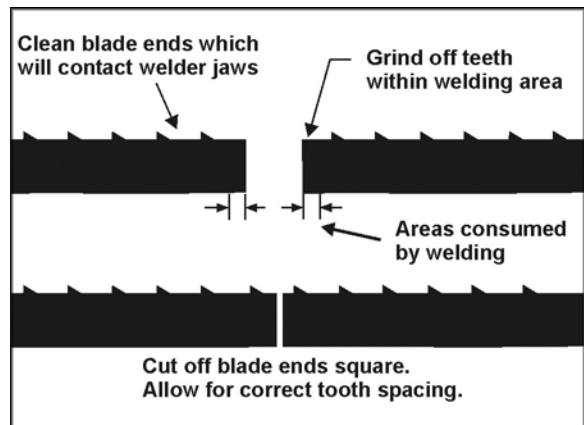

Figure 13
3. Position blade so that cut is made at a place that allows for uniform spacing of teeth. See Figure 13.
In fine pitched blades, one or more of the teeth on each side of the cut may need to be removed by grinding so that the weld area of the blade is uniform and the teeth will be uniformly spaced. See Figure 13, and refer to section 12.5 *Blade grinding*.